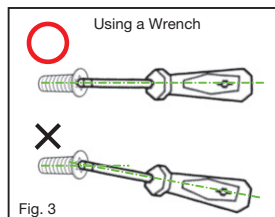

Fig. 3
- When using the wrench, align it to the axis of the screw and press while turning. (See Fig. 3) If the wrench is not aligned with the screw, the insert will be insufficiently clamped and the tip of the wrench and/or the Torx hole of the screw may become deformed.